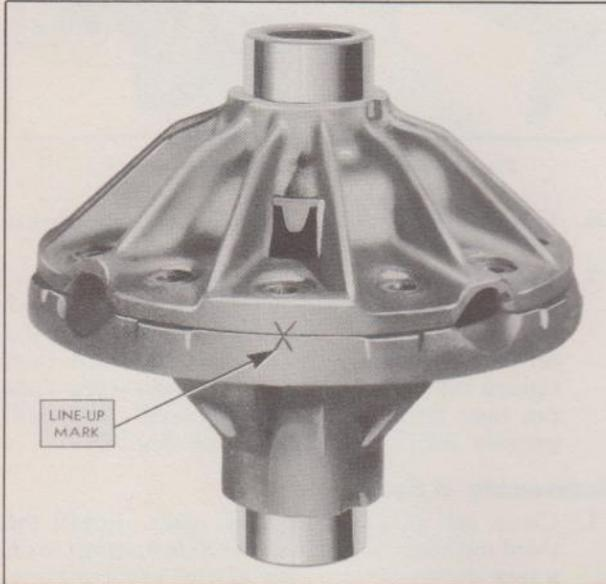

Fig. 26—Differential Case Marks
To disassemble the differential, check and make sure the case halves are marked (Fig. 26) so it may be assembled in the same position. Remove the twelve 1/2" bolts from the case. Lift off the case cover and remove the differential gears and pinions.
2. Assemble the right side of the case to the left side, being sure to line up the marks on the case halves, Fig. 26.